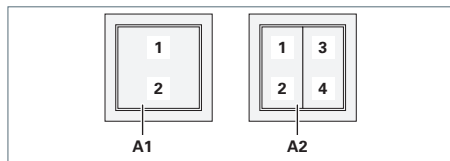

Fig. 16: Example: Bluetooth wireless wall transmitter.
- ▶ Briefly press the key of an occupied channel on the wireless transmitter, see Fig. 16.
- ▶ Press the key of an occupied channel on the wireless transmitter and keep the button pressed, see Fig. 16.